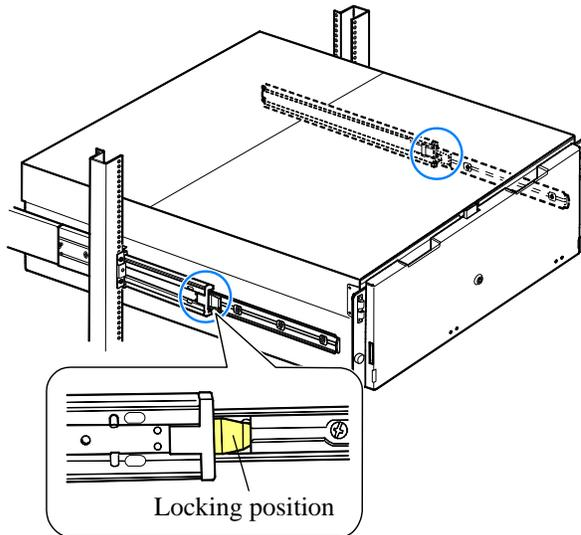

Fig. 3.42.1-20 Rack Rail Locking Position
- a. Make the levers of the ENC up and forward. (See Fig. 3.42.1-12.)